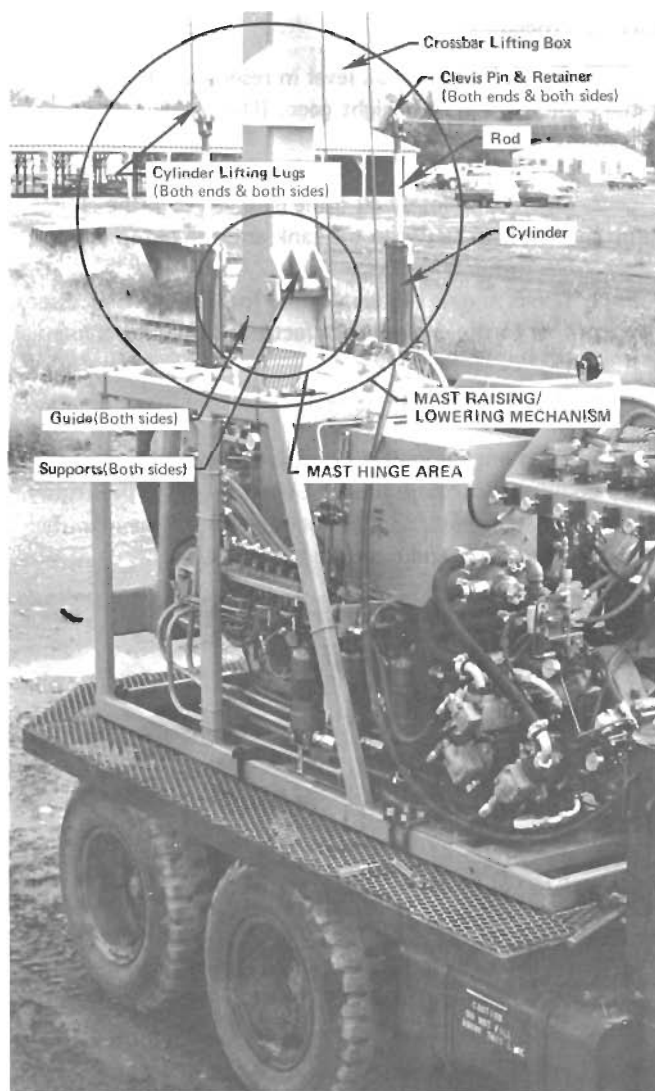

Figure 6.—Mast raising/lowering mechanism.
2. Disconnect the hydraulic cylinders from the mast (fig. 6).
2. Inspect the mast raising/lowering hydraulic system and mechanisms (fig. 6), including cylinder and attachment points for leakage, damage, or excessive wear. Make appropriate repairs before attempting to raise or lower the mast. Make sure that the four cylinder clevis pins are in place and properly secured with their retaining clips.